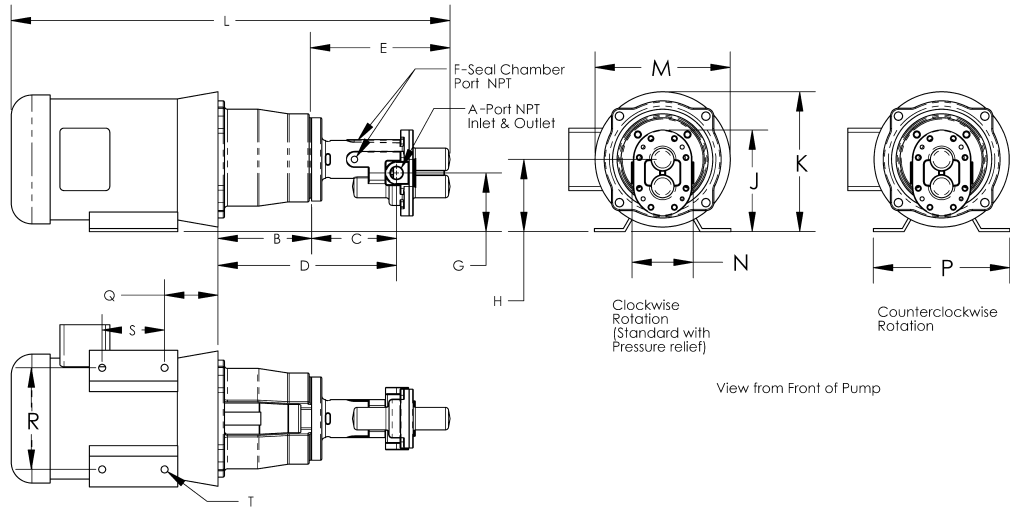

Figure 1
3. Attach suction line to suction inlet (See Figure 1 for proper rotation).